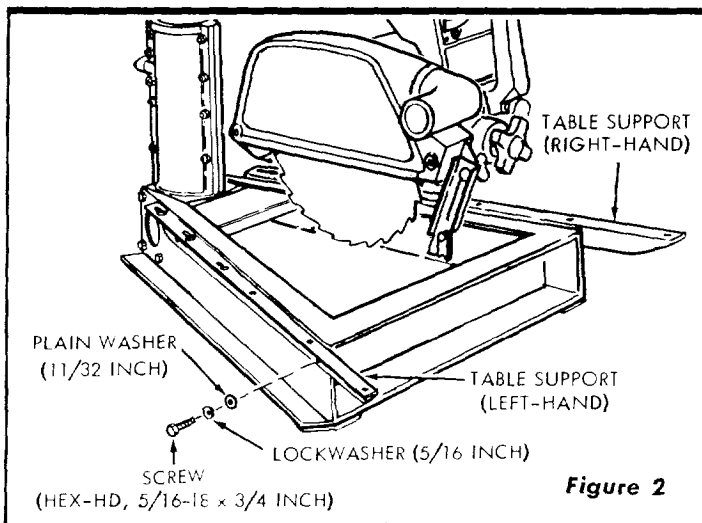

Figure 2
2. Attach right-, and left-hand table supports to the saw base as follows: (See figure 2.)
**NOTE:** Right-, and left-hand supports may be identified by the three "keyholes" in the table attaching surface of each support. These keyholes are for attaching the table clamps and are located at the rear of the saw. Also, the angle of each support turns outward, away from the saw base. (See figure 2.)
- k. Tighten the two hex-head screws (figure 2) securely to retain the adjustment. Recheck to make sure that tightening screws did not affect the accuracy of the adjustment.